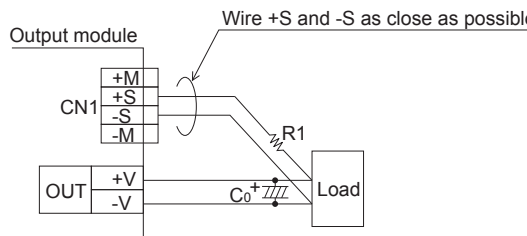

Fig.2.4 When using remote sensing function
■ Wiring method with remote sensing is shown in Fig.2.4.
① Note connecting wires enough because the load current flows to sensing line and an internal circuit of power supply is damaged occasionally, when defective contact of the screw such as loosening happens in the load line.
② Conform the line drop should be at 0.3V or less using a thick wire from the power supply to the load.
③ When remote sensing function is used, output voltage might become unstable because of a impedance of wiring and load condition. And the power supply should be evaluated enough. Following are examples to improve it.